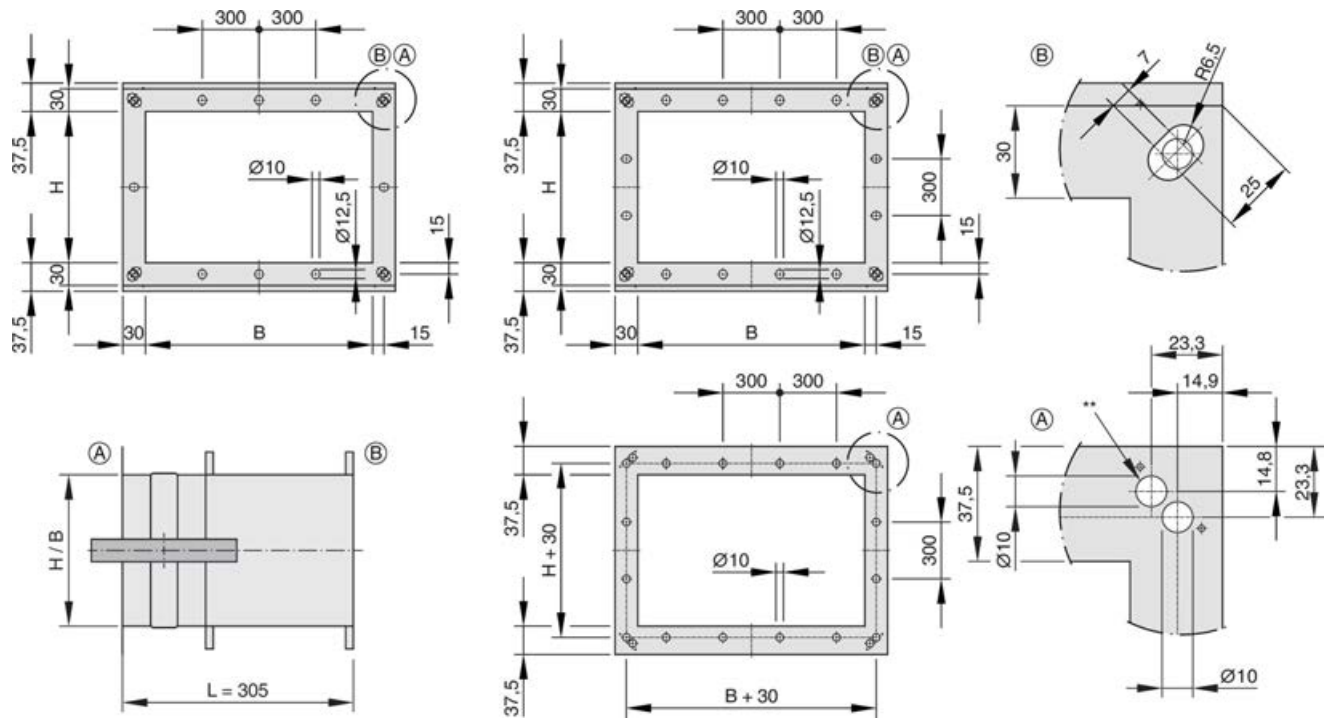

Fig. 3: Flange holes $L = 305$ mm – uneven and even number of holes
- Flange dimensions for L = 305 mm, see Fig. 3.
- Flange dimensions for L = 305 mm, see Fig. 3 .